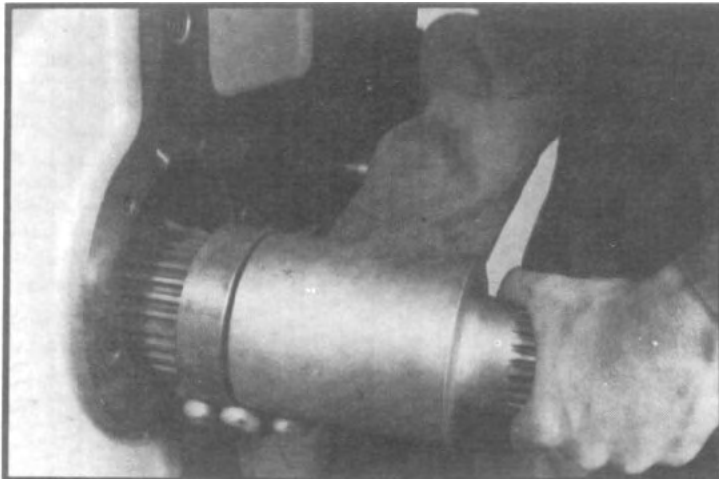

Fig. 30
10. Continue to tap on the rear of the shaft until shaft is free from rear bearing and withdraw shaft and spacer ring (located between shaft and input gear) from front of case. Use care to prevent damage to input gear as shaft pulls free. Remove block of wood. (See fig. 30.)